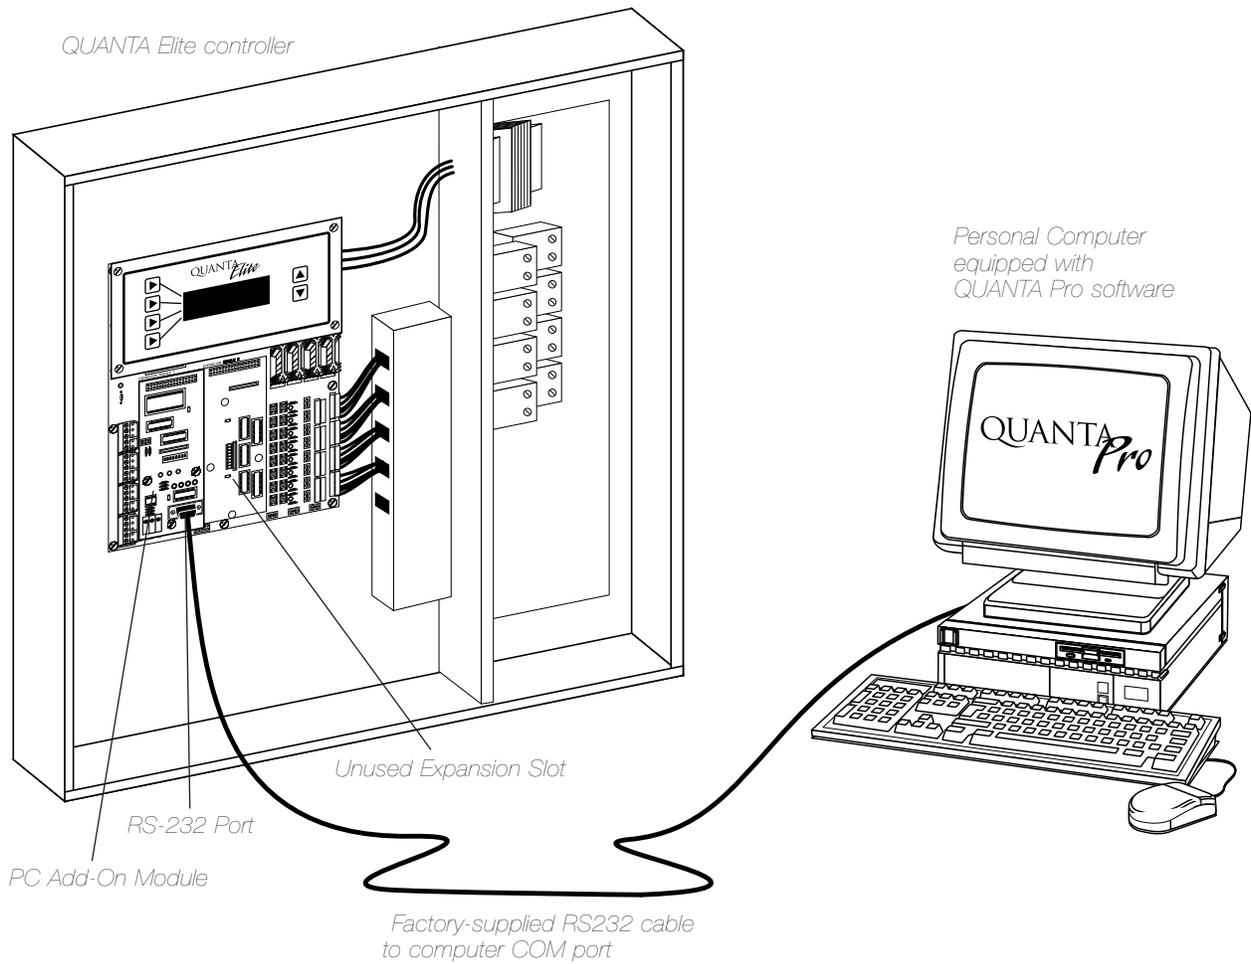

Figure B.1 – Programming the Controller from a PC
1. If you are field-installing the module, power-down the controller and plug the module into an unused expansion slot on the controller CPU I/O board. (See Figure B-1.)